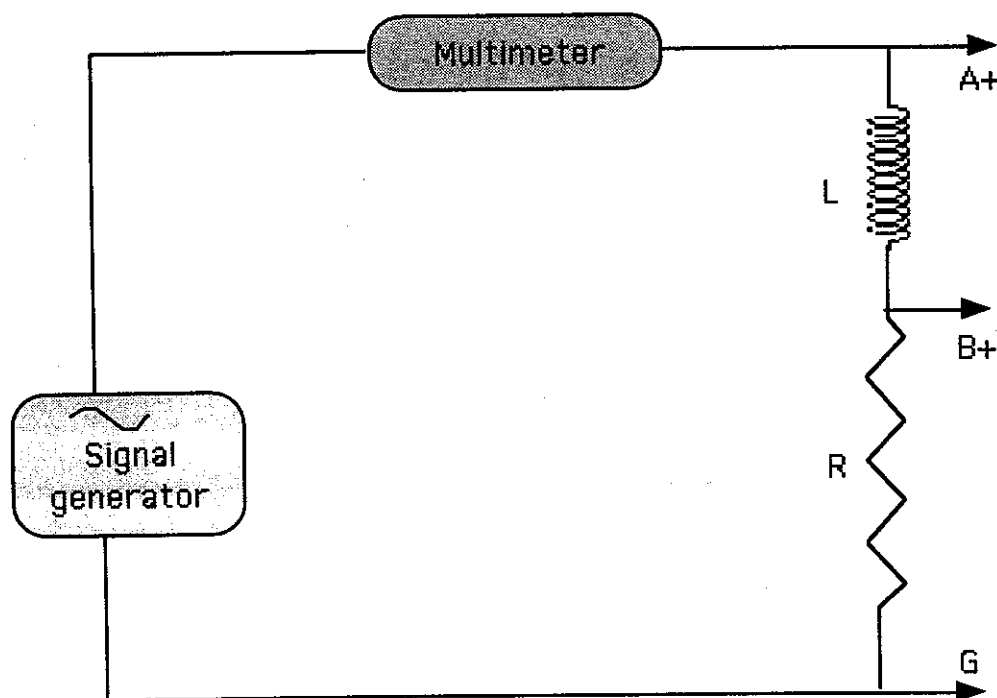

Fig. 9.8b
- (j) Make the connections as shown in Fig. 9-8b. Adjust the volt/div (A and B) and time/div, if necessary.
6. Why do we have to change the circuit shown in Fig. 9-7a (or Fig. 9-8 a) to the circuit shown in Fig. 9-7b (or Fig. 9-8b) to determined the phase difference ϕ between the applied voltage and current?